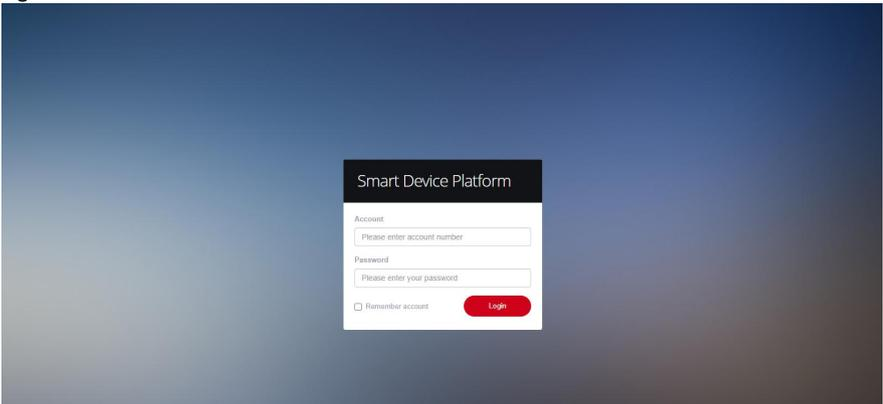

Figure 5-2
Step 3: In SDP2000 server control panel click " " to enter the login interface,as shown in Figure 5-2 below.